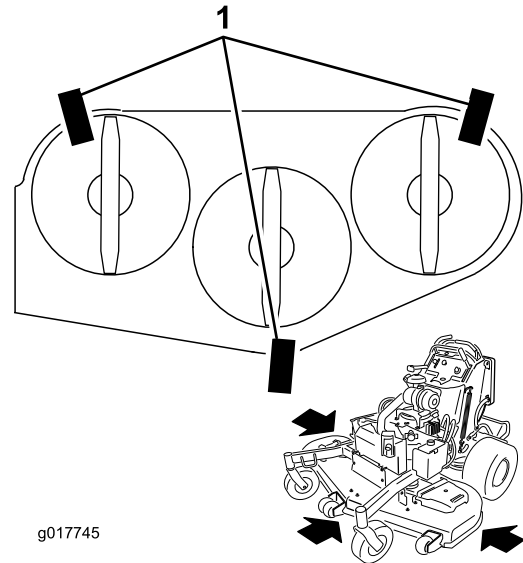

Figure 93
1. Place 3 pieces of 2x4 wood under the mower deck as shown in Figure 93. Stand the 2x4's on the 4 inch part.